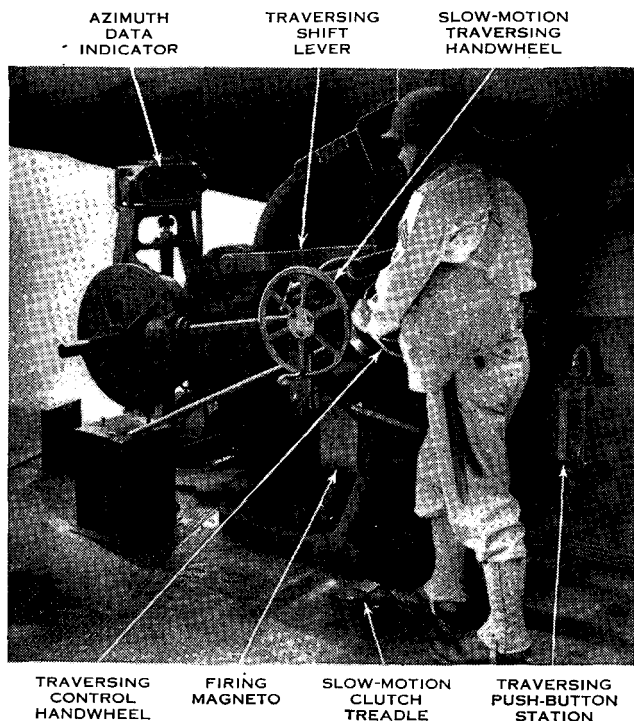

Figure 13. Traversing the gun.
11. GUN POINTER. The gun pointer is charged with the duty of pointing the piece in direction. He is responsible to the gun commander for the proper operation, care, and adjustment of the azimuth data indicator, traversing mechanism (fig. 13), and the telescope and telescope mount. For detailed duties of the gun pointer, see the drill table, appendix III.
24. TRAVERSING MECHANISM. *a. To traverse the gun by power (fig. 13), the gun pointer first sets the traversing shift lever to the POWER position, sees that the traversing control detent is at neutral (the zero mark on the indicator dial coincides with the index line on the gear case), and then starts the traversing motor. The gun may be traversed in either direction at a constant rate*